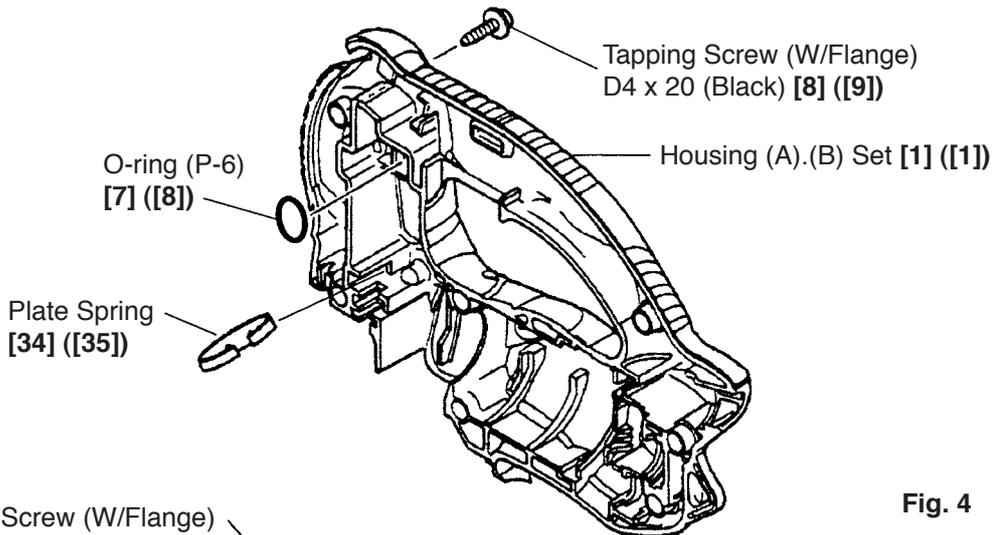
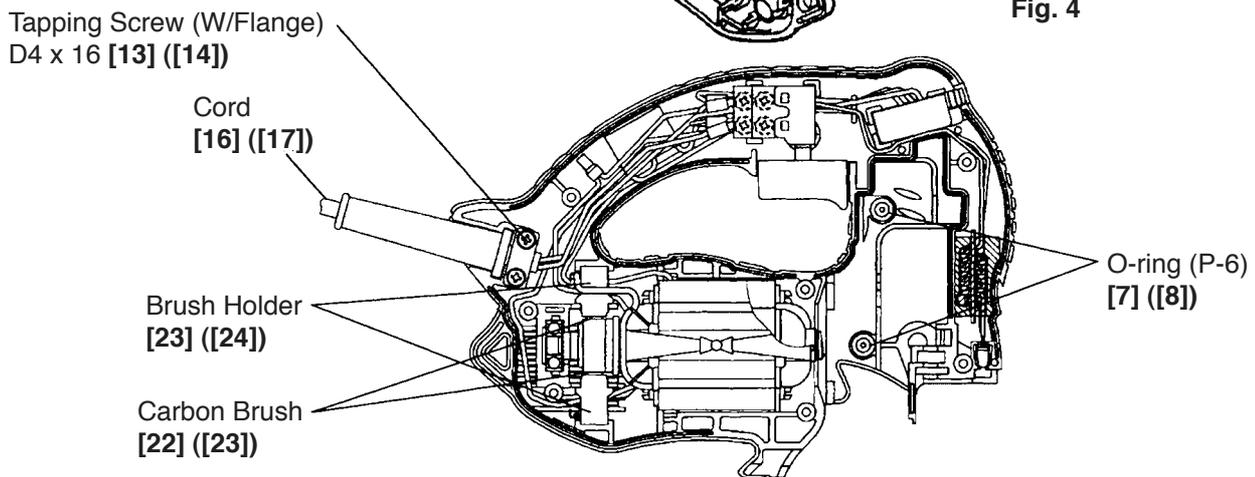

Fig. 4
Fig. 5
(3-1) Disassembly of the Housing (A).(B) Set [1] ([1]) for the Models CJ 110MV and CJ 110M (Fig. 4 and Fig. 5)